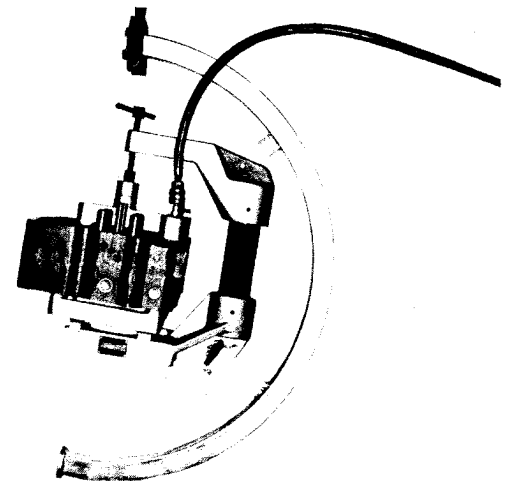

Fig. 2-4, (N10282). Using ST-1012 Hydrostatic Tester
4. Install ST-1012 Hydrostatic Tester, using proper ST-1013 Base Plate to clamping device. Fig. 2-4.